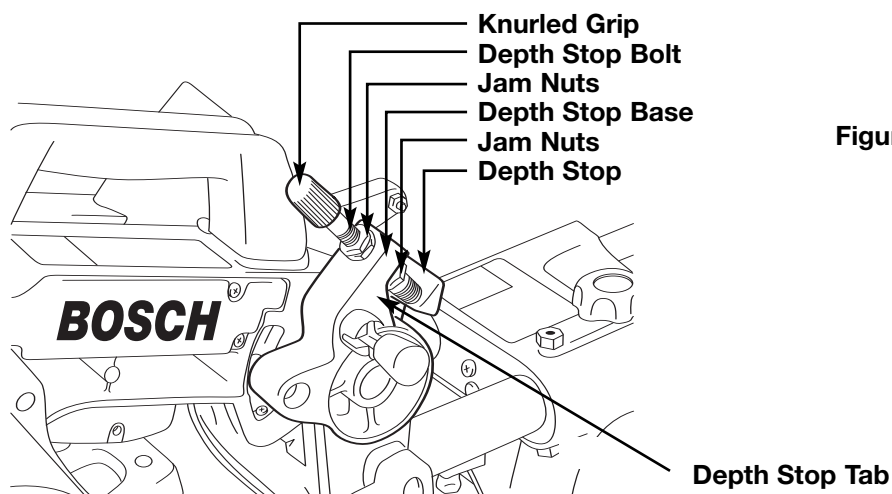

Figure 31. Cutting Grooves
1. Set the depth of cut by loosening the jam nuts on the depth adjustment bolt (Figure 31). Do not change the position of the two (2) jam nuts on the end of the bolt.